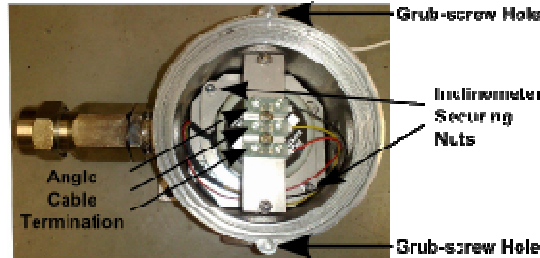

Figure 15 - Angle Sensor Internal View
- Ensure the reading is between 50 and 4050. If the reading is outside these values adjust the inclinometer inside the angle sensor as follows (refer to Figure 15);